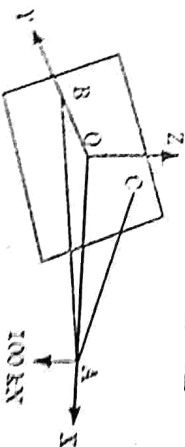

Fig. 1.
- d. Determine the forces in the member O1A, AB, AC shown in Fig. 1 using tension coefficient method.